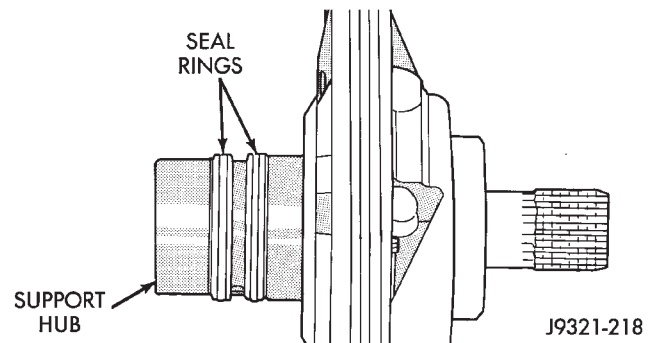

Fig. 49 Hub Seal Ring Position
(7) If reaction shaft seal rings are being replaced, install new seal rings on support hub (Fig. 49). Lubricate seal rings with transmission fluid or petroleum